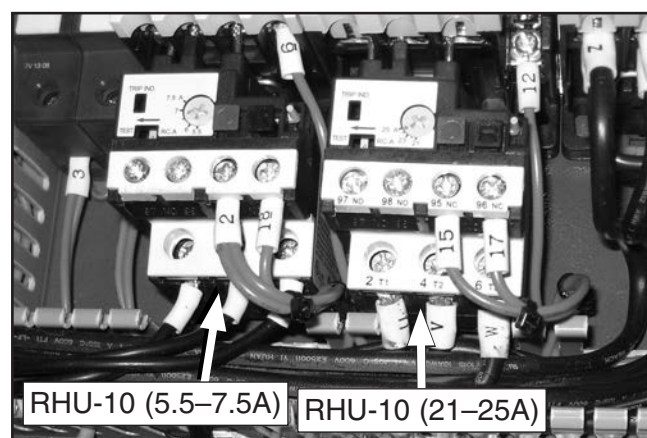

Figure 4. Overload relays.
4. Remove RHU-10 (5.5-7.5A) overload relay (see **Figure 4**) and replace it with an RHU-10 (2.9-4A) overload relay. Set dial to 4A.
5. Remove RHU-10 (21-25A) overload relay (see **Figure 4**) and replace it with an RHU-10 (11.3-16A) overload relay. Set dial to 12A.